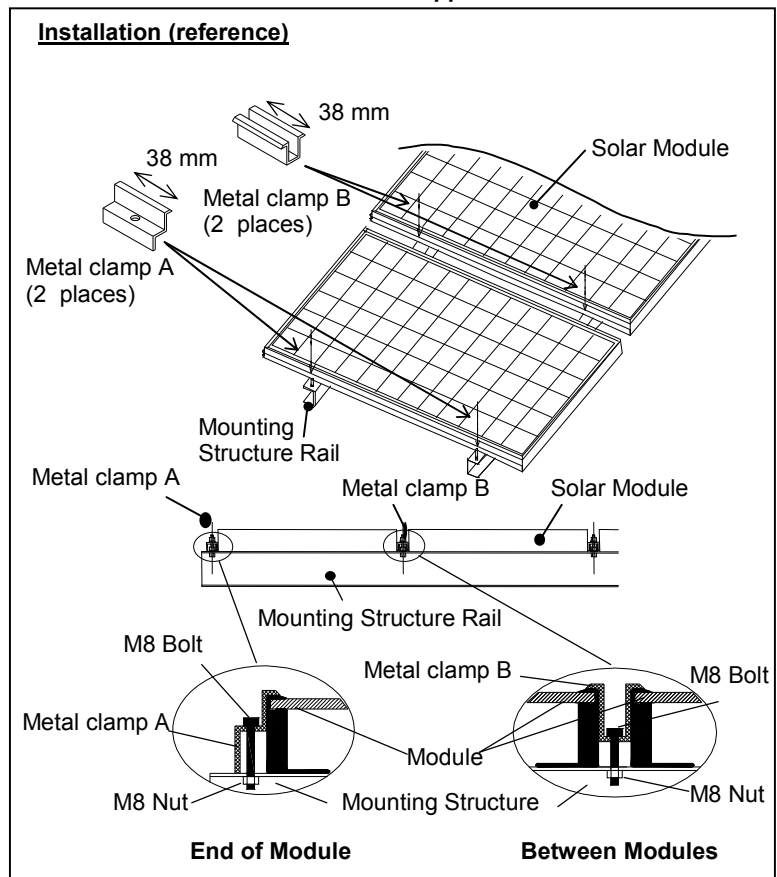

Figure 1 Installation
- SANYO recommends the installation method and mounting profile shown in Figure 1.